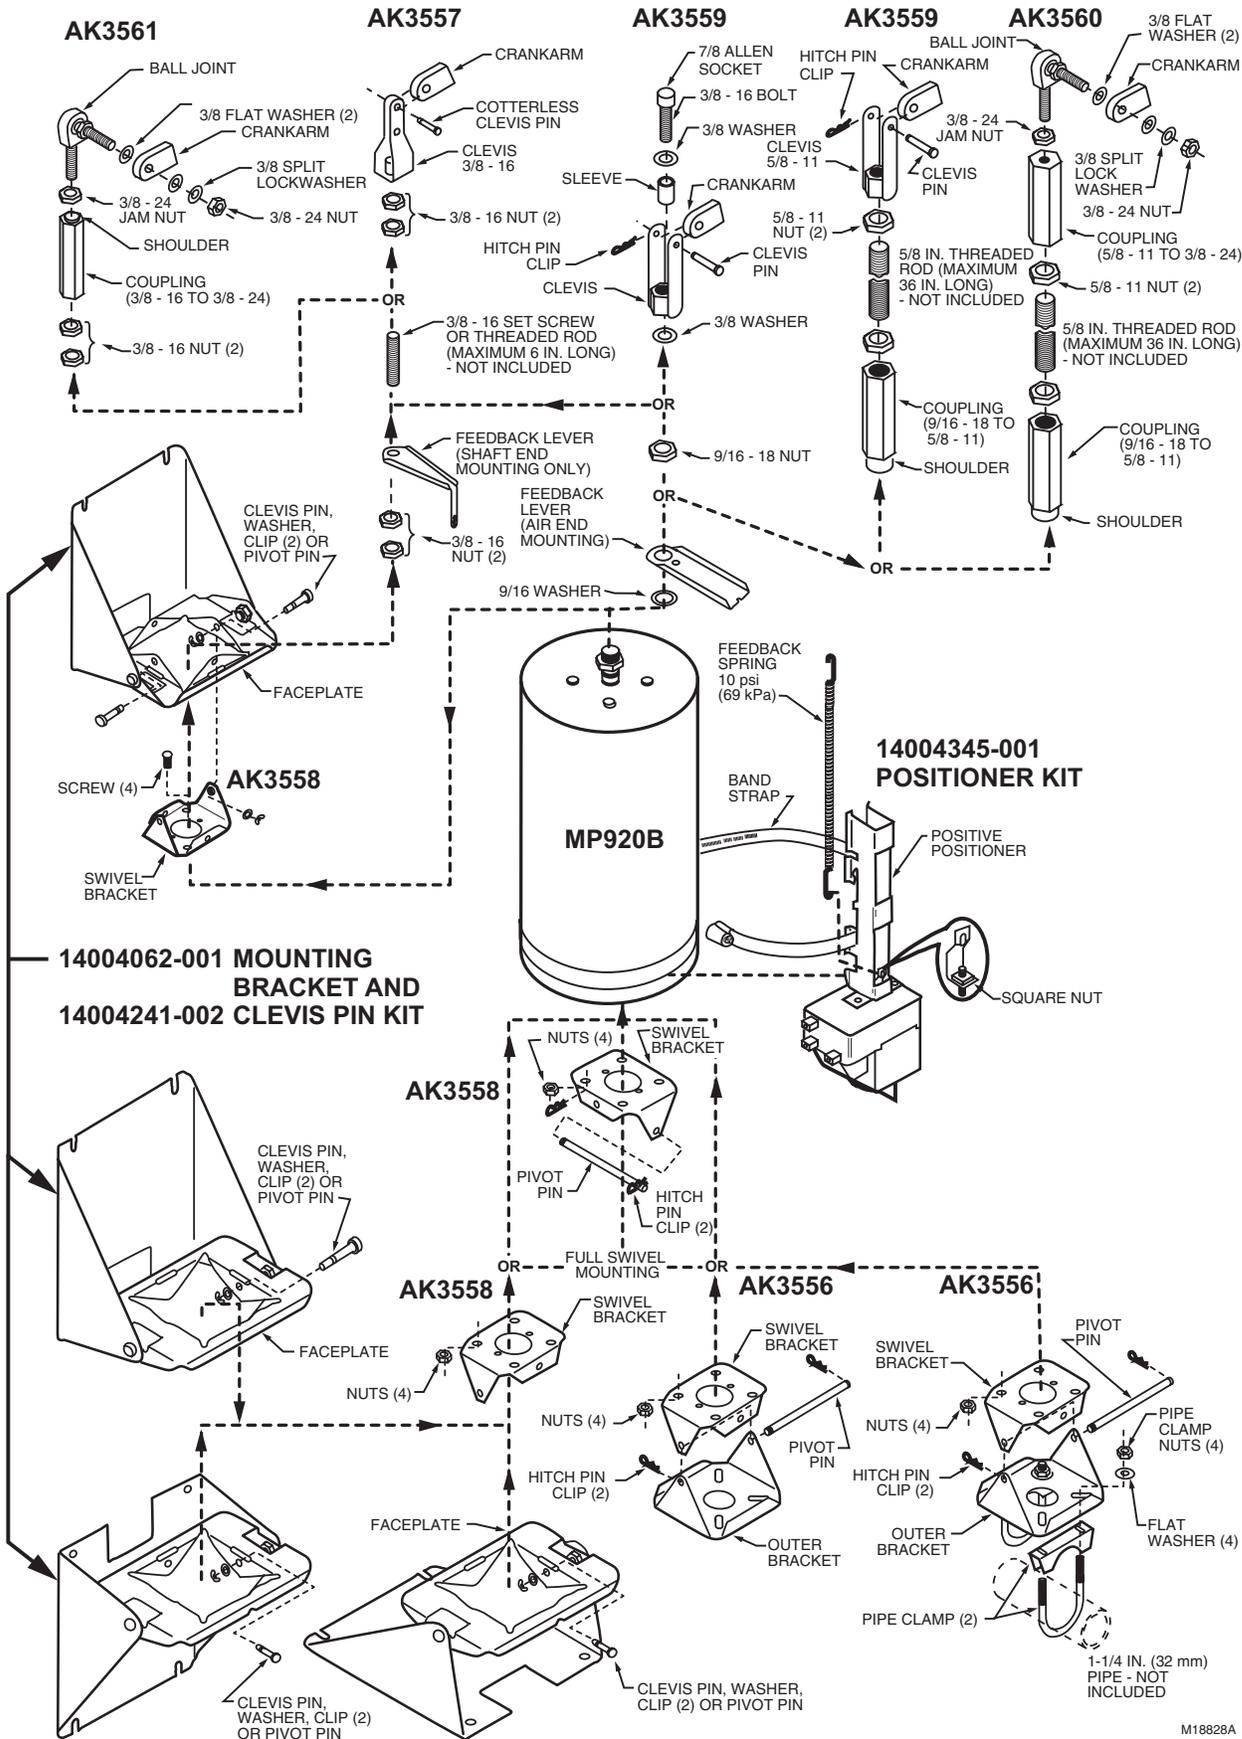

Fig. 5. MP920 mounting options.
The actuator can have either fixed or swivel mounting from shaft or air end. See Fig. 5 for optional mounting abilities with the standard hardware.
3. Determine mounting bracket assembly. See Table 1 and Fig. 5.
4. Determine connecting linkage bag assembly. See Table 1 and Fig. 5.